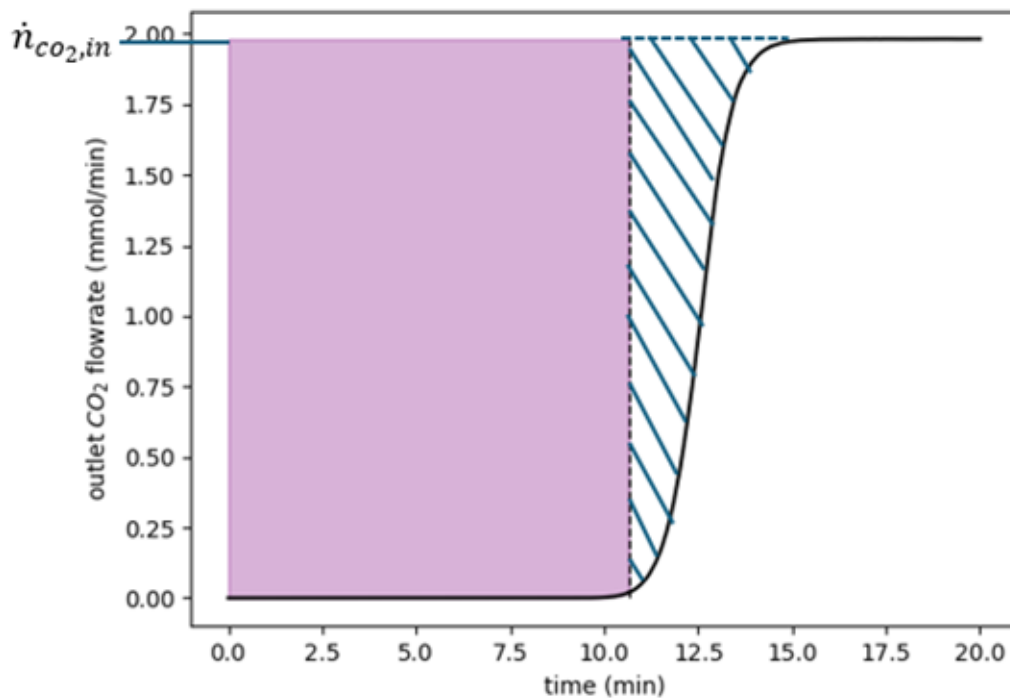

Figure 1 CO₂ outlet molar flow rate versus time for CO₂ adsorption
9. Integrate $(F_{CO_2,in} - F_{CO_2,out})$ with respect to time in the spreadsheet to obtain the area under the curve in Figure 1. The area (the shaded rectangle plus the cross-hatched area combined) is equal to the moles of CO₂ adsorbed. Record this value in Table 1.